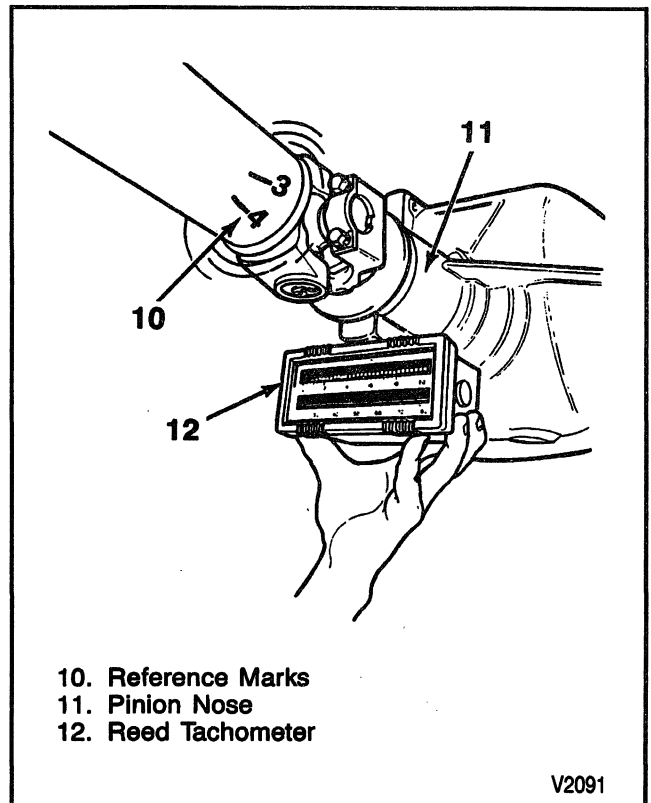

Figure 16—Propeller Shaft Reference Marks and Reed Tachometer Position
Hose Clamp Method (Figures 16 through 18)
2. Mark and number propeller shaft at four points 90 degrees apart at the rear of the propeller shaft just forward of the balance weights (Figure 16).
4. Run the vehicle through the speed range to 81 to 89 km/h (50 to 55 mph). Note the amount of imbalance felt at the front of axle housing or as indicated by a reed tachometer or the EVA sensor. Refer to Figures 16 and 17.